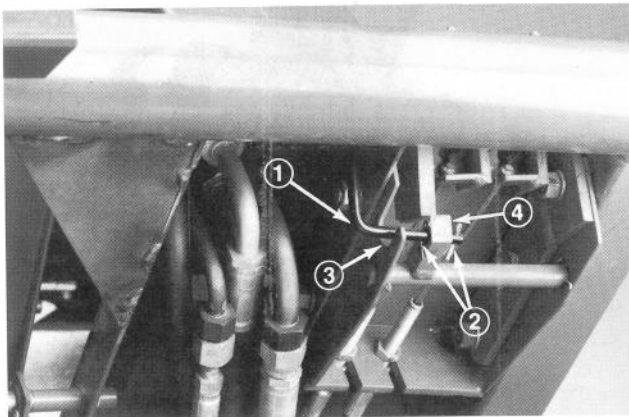

Figure 2
5. Install cotter pin (3/32 x 1/2 in. - 2.4 x 13 mm) through hole at top of parking brake rod. Install another cotter pin (3/32 x 1/2 in. - 2.4 x 13 mm) through inside hole at L-shaped end of brake rod (Fig. 2). Slide top of rod up the steering tower and bottom of rod between cutout in brake mount and through hole in parking brake latch (Fig. 2). Install remaining cotter pin through end of rod.